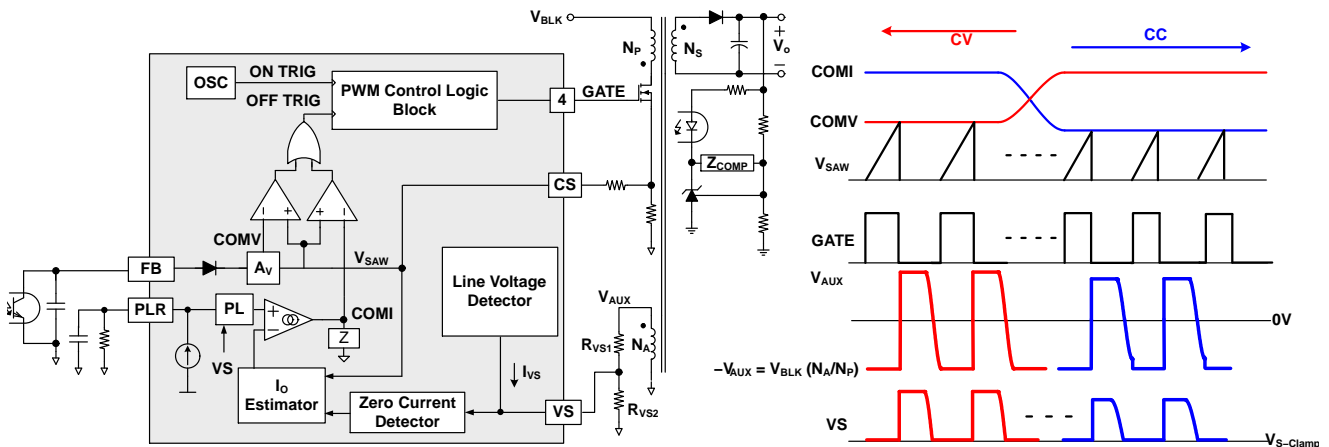
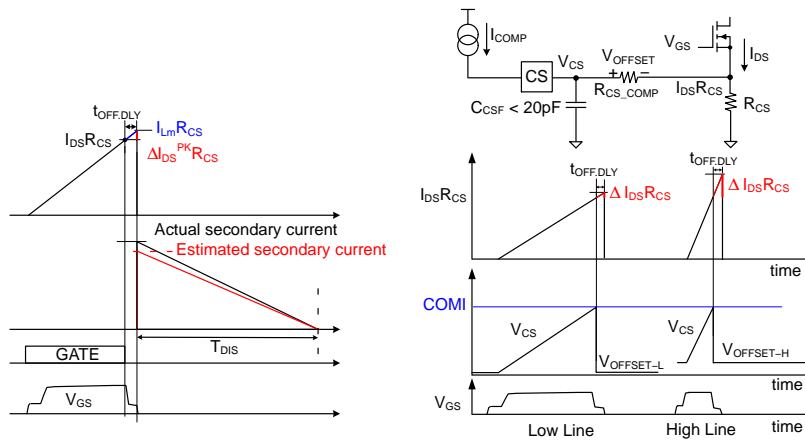

Figure 27. Simplified PWM Control Circuit and PWM Operation for CV/CC Regulation
Figure 29. Effect of MOSFET Turn-off Delay and Line Voltage Compensation
Figure 27 shows a simplified CV / CC PWM control circuit of the FAN604P. The Constant Voltage (CV) regulation is implemented in the same manner as the conventional isolated power supply, where the output voltage is sensed using a voltage divider and compared with the internal reference of the shunt regulator to generate a compensation signal. The compensation signal is transferred to the primary side through an opto-coupler and scaled down by attenuator  $A_V$  to generate a COMV signal. This COMV signal is applied to the PWM comparator to determine the duty cycle.
These two control signals, COMV and COMI, are compared with an internal sawtooth waveform ( $V_{SAW}$ ) by two PWM comparators to determine the duty cycle. Figure 27 illustrates the outputs of two comparators, combined with an OR gate, to determine the MOSFET turn-off instant. Either of COMV or COMI, the lower signal determines the duty cycle. During CV regulation, COMV determines the duty cycle while COMI is saturated to HIGH level. During CC regulation, COMI determines the duty cycle while COMV is saturated to HIGH level.
The output current estimation is also affected by the turn-off delay of the MOSFET as illustrated in Figure 29. The actual MOSFET's turn-off time is delayed due to the MOSFET gate charge and gate driver's capability, resulting in peak current detection error as
Where Lm is the transformer's primary side magnetizing inductance. Since the output current error is proportional to the line voltage, the FAN604P incorporates line voltage compensation to improve output current estimation accuracy. Line information is obtained through the line voltage detector as shown in Figure 27. ICOMP is an internal current source, which is proportional to line voltage. The line compensation gain is programmed by using CS pin series resistor, RCS\_COMP, depending on the MOSFET turn-off delay, tOFF,DLY. ICOMP creates a voltage drop, VOFFSET, across RCS\_COMP. This line compensation offset is proportional to the DC link capacitor voltage, VBLK, and turn-off delay, tOFF,DLY. Figure 29 demonstrates the effect of the line compensation.